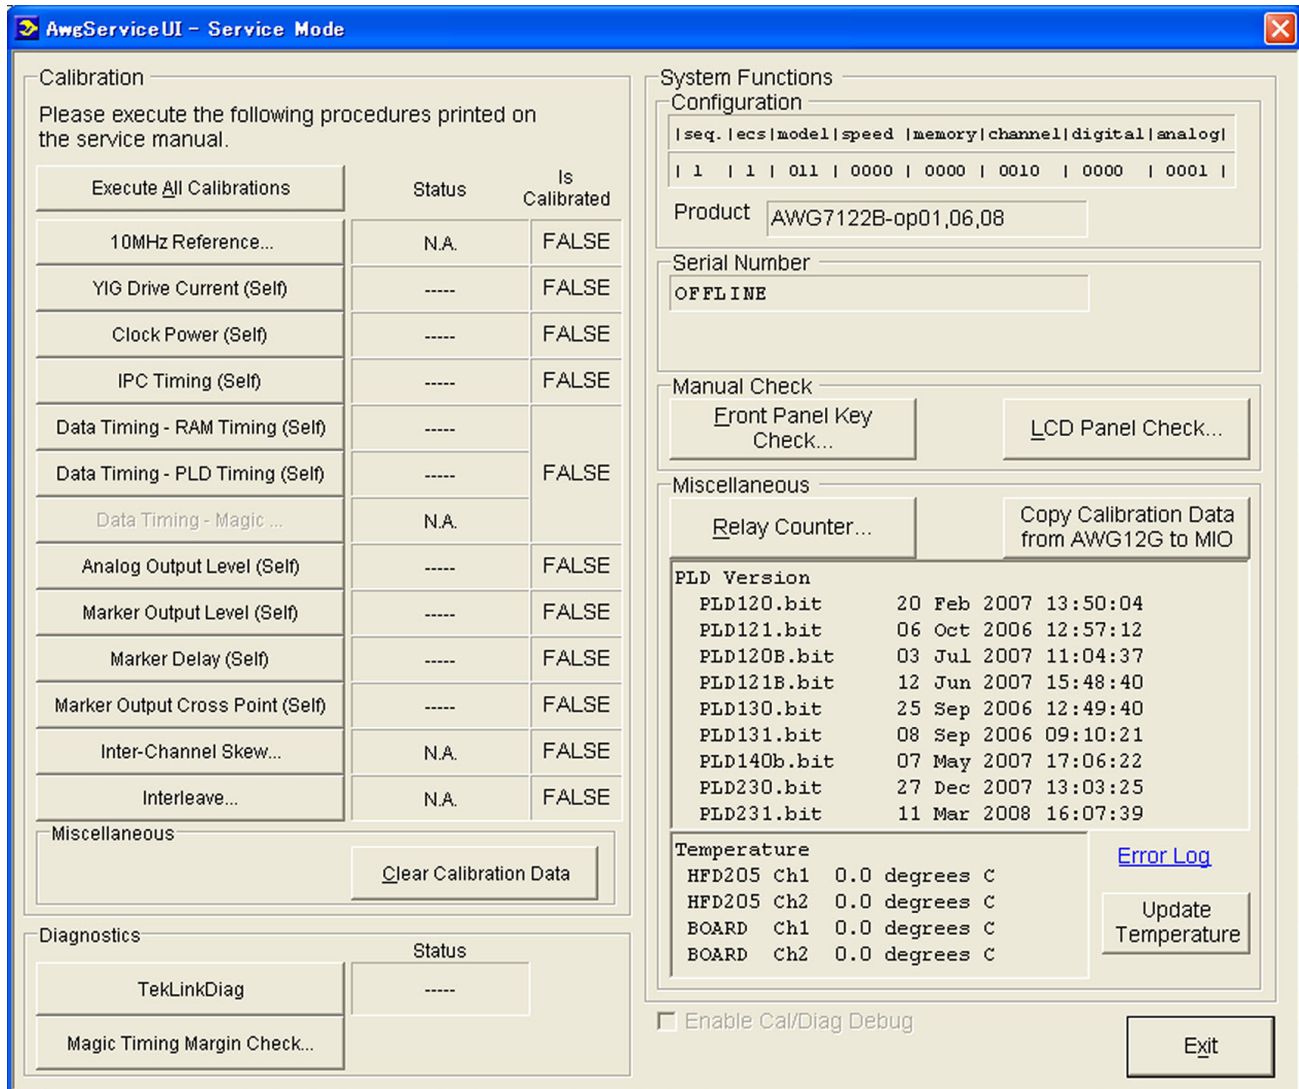

Figure 2: AwgService UI window
4. The AwgService UI window appears. (See Figure 2.)